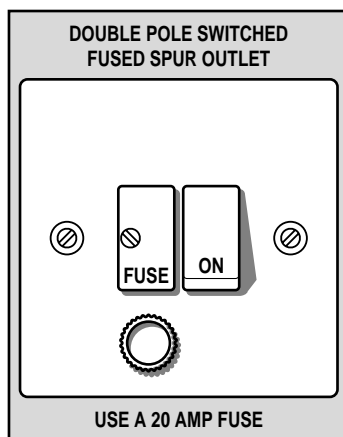
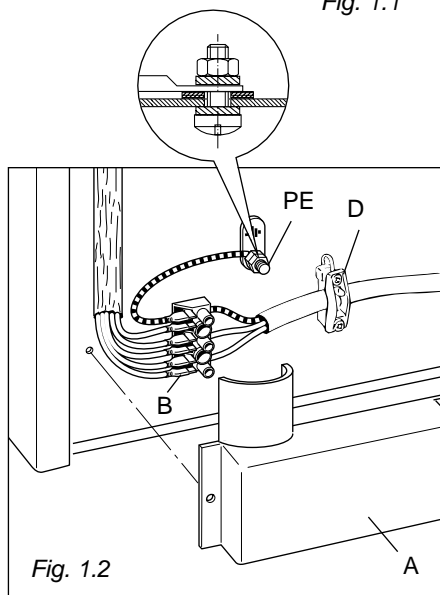

Fig. 1.1
Fig. 1.2
This appliance must be connected to a double pole isolating switch (fig. 1.1) and to the terminal block in the cooker (figs. 1.2 & 1.3) using the following guide:
- Remove the screw that hold shield “A” behind the cooker (fig. 1.2).